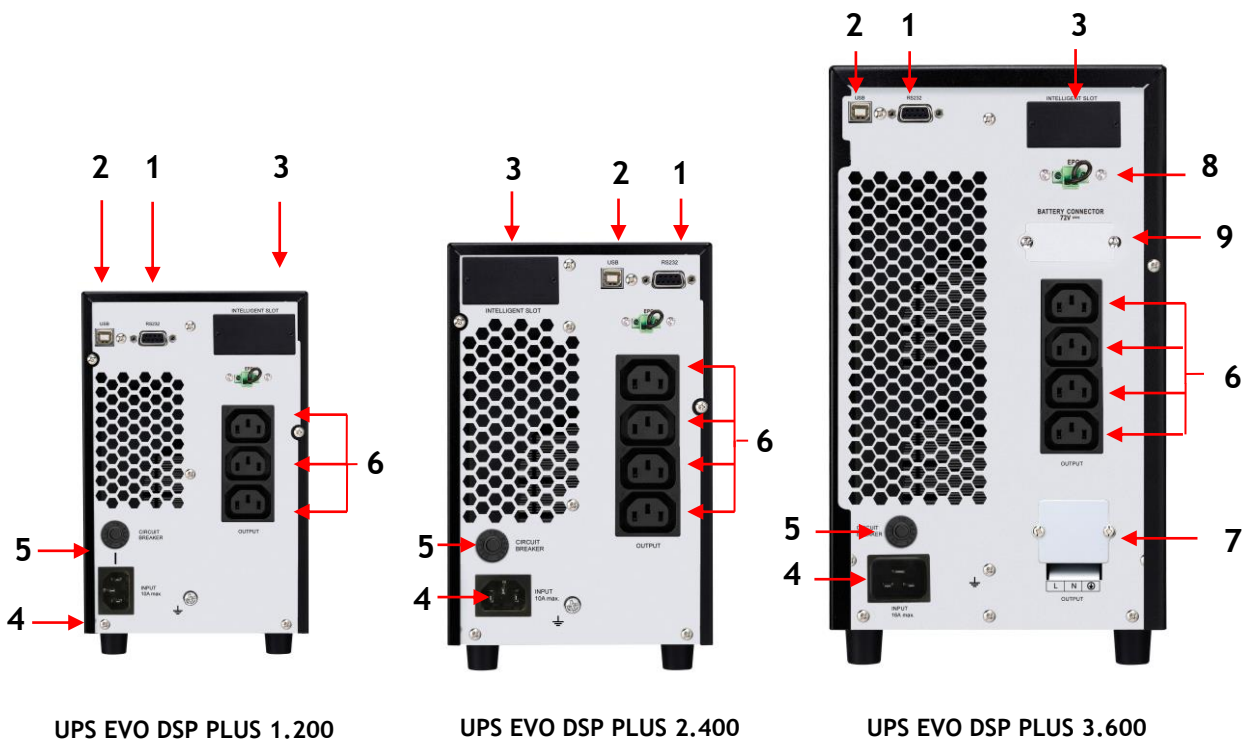

Figure 4 - Rear Side
UPS EVO DSP PLUS models have the EPO (Emergency Power OFF) connector on the rear side, (see figure 4).
1. Through the included power cable connect the UPS Input socket to the AC line outlet (see figure 4). **It is mandatory to ground the AC line outlet according to the Safety Standards.** Carefully check the grounding of AC line outlet.
- 3.1. Remove the metal cover (#7) on the rear side (see figure 4) to access to the Battery Box Connector.